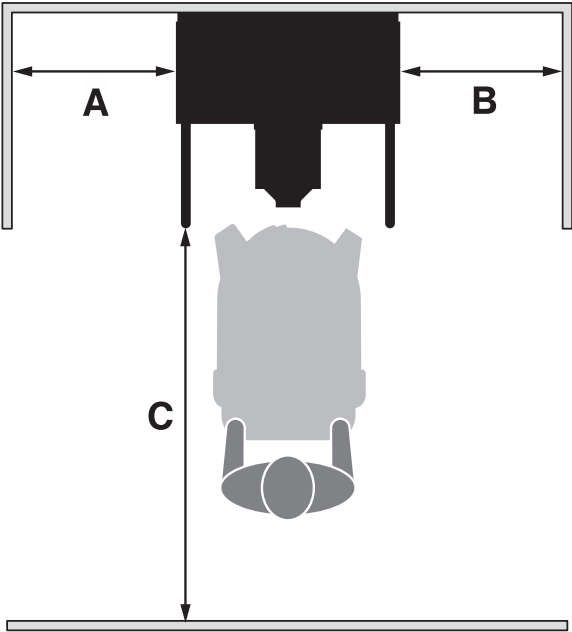

Figure 5 Minimum Floor Space Requirements
- The docker is installed in a utility closet or disposal area with access to electrical power, a water supply, and a fluid waste drain. The healthcare facility is responsible for the preparation of the installation site and the availability of utilities. See the *Specifications* section for electrical power, water, and drainage requirements. Make sure the installation area meets utility and space requirements (Figure 5).